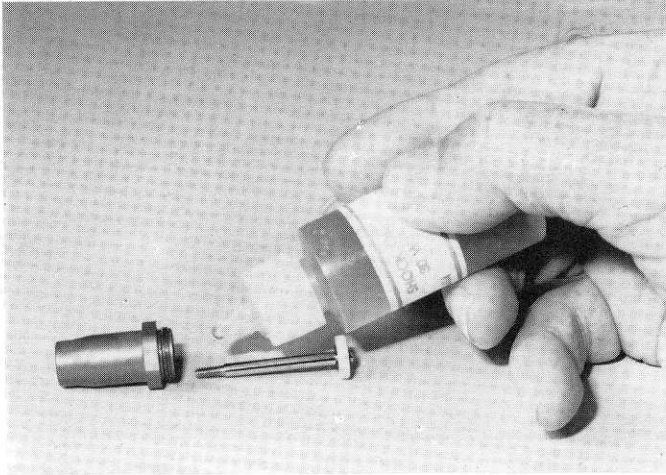

Fig. 116
- Fig. 116** After the split washer is fully seated, place a liberal amount of oil on the short shock shaft and slowly push it into the shock, and pull it all the way to the bottom.